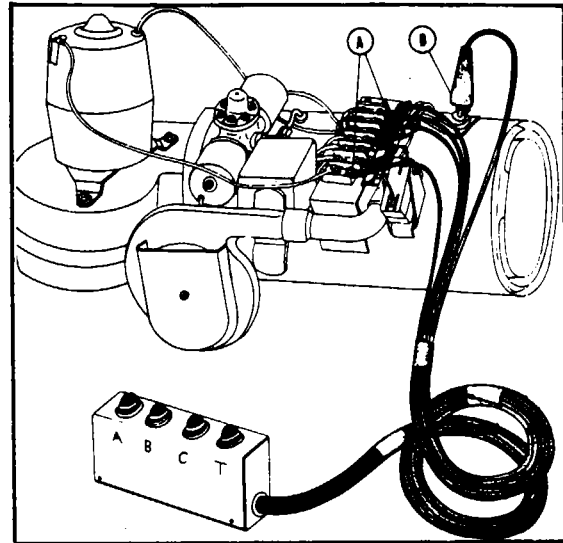

Figure 13-17. Circuit Analyzer Installation
b. Loosen the screws which hold the connecting strip to the heater terminal block. (Refer to Figure 13-17.) Insert the analyzer connecting strip under the terminal screws Nos. 8, 9, 11, 12, 13 and 14 and retighten the screws.